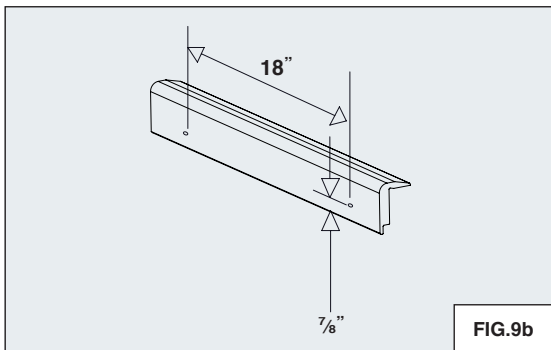

FIG.9b
- Pre-drill the L-Trim with holes located 7/8" from the bottom edge, spaced 18" apart. Slot any holes as required to allow for expansion/contraction. (REFER TO FIG.9b & 9d)
- Pre-drill the L-Trim with holes located 7/8" from the bottom edge, spaced 18" apart. Slot any holes as required to allow for expansion/contraction. (REFER TO FIG.9b)